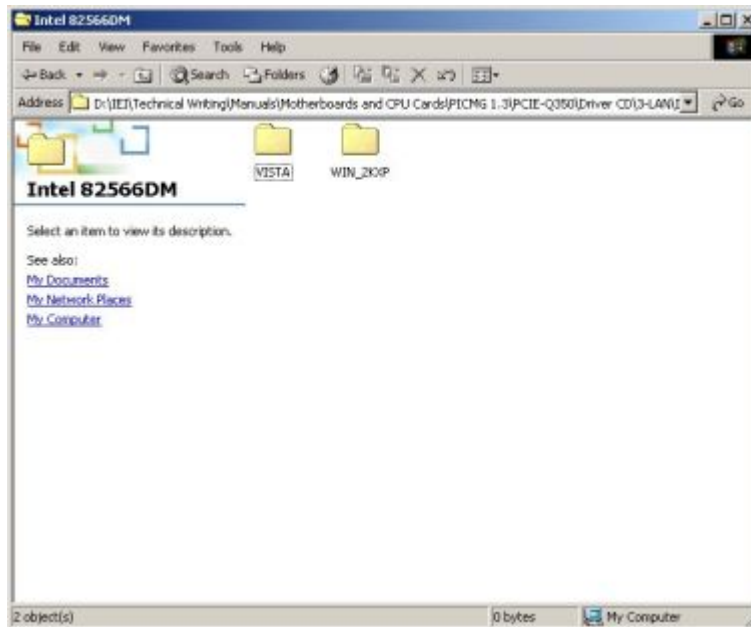

Figure 7-20: Intel® 82566DM Operating System
Step 4: The window in **Figure 7-20** appears.
- Step 5:** Select the Operating System in **Figure 7-20**.